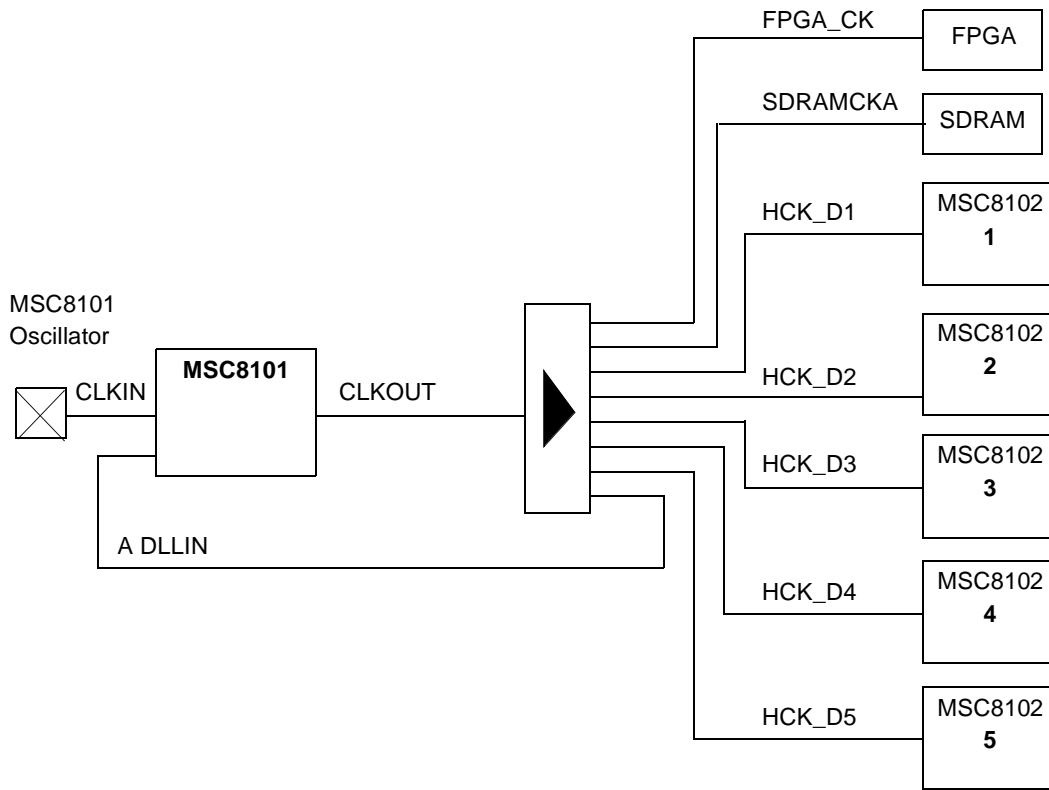

Figure 13. MSC8101 Aggregator Clocking Scheme
- MSC8101 aggregator and MSC8102 DSI interface clocking (see **Figure 13**).